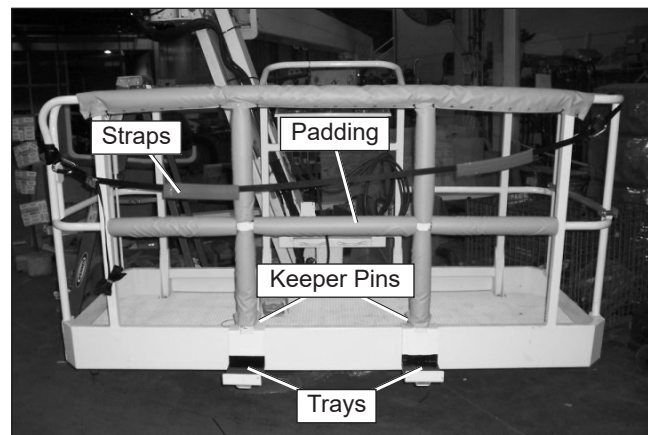

Figure 7.18 – Platform Glazier Package
- Inspect the glazier tray(s) (refer to Figure 7.18) and keeper pins or fasteners to make sure they are in good condition and are not bent or distorted. The straps and padding must be in good condition and not worn, cut or frayed.